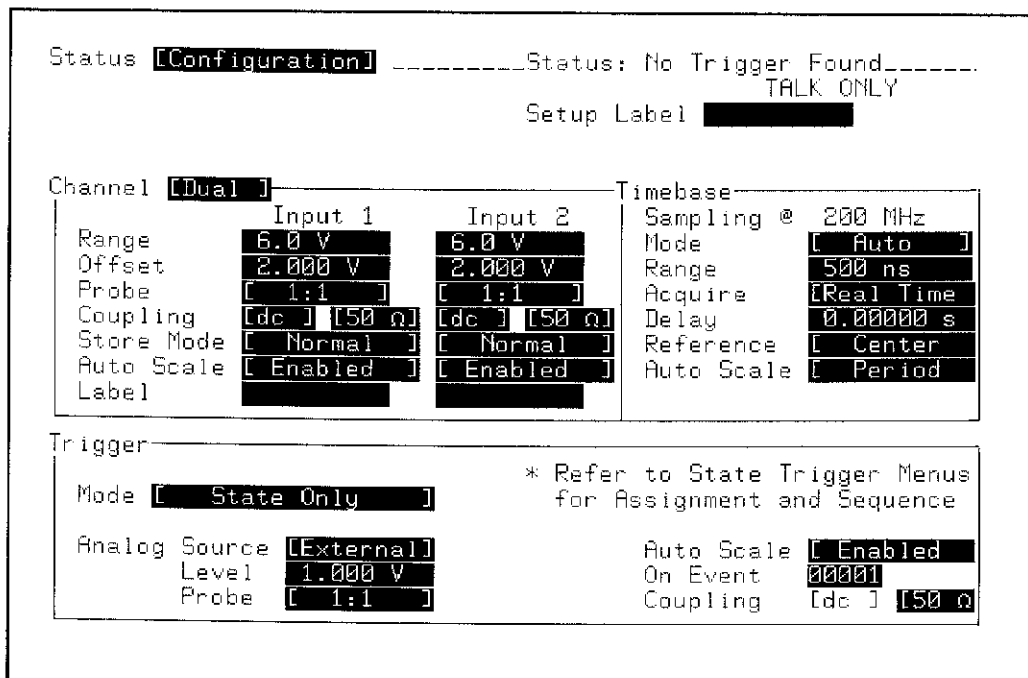

Figure 3-29. STATUS Configuration Menu
1. Configure the STATUS Configuration menu as shown in figure 3-29.